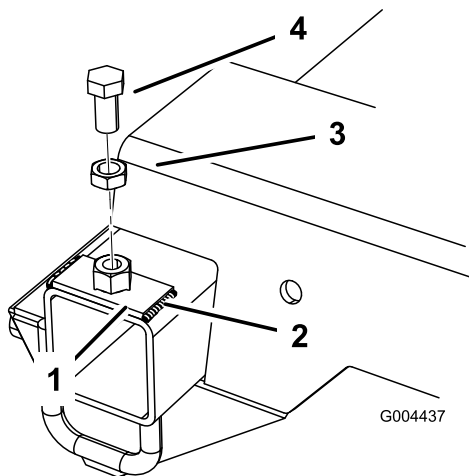

Figure 5
- 4. Weld the new plate to the frame with a 1/4 inch fillet on the left and right sides of the plate (Figure 5). After the bolt and jam nut have cooled, remove them.